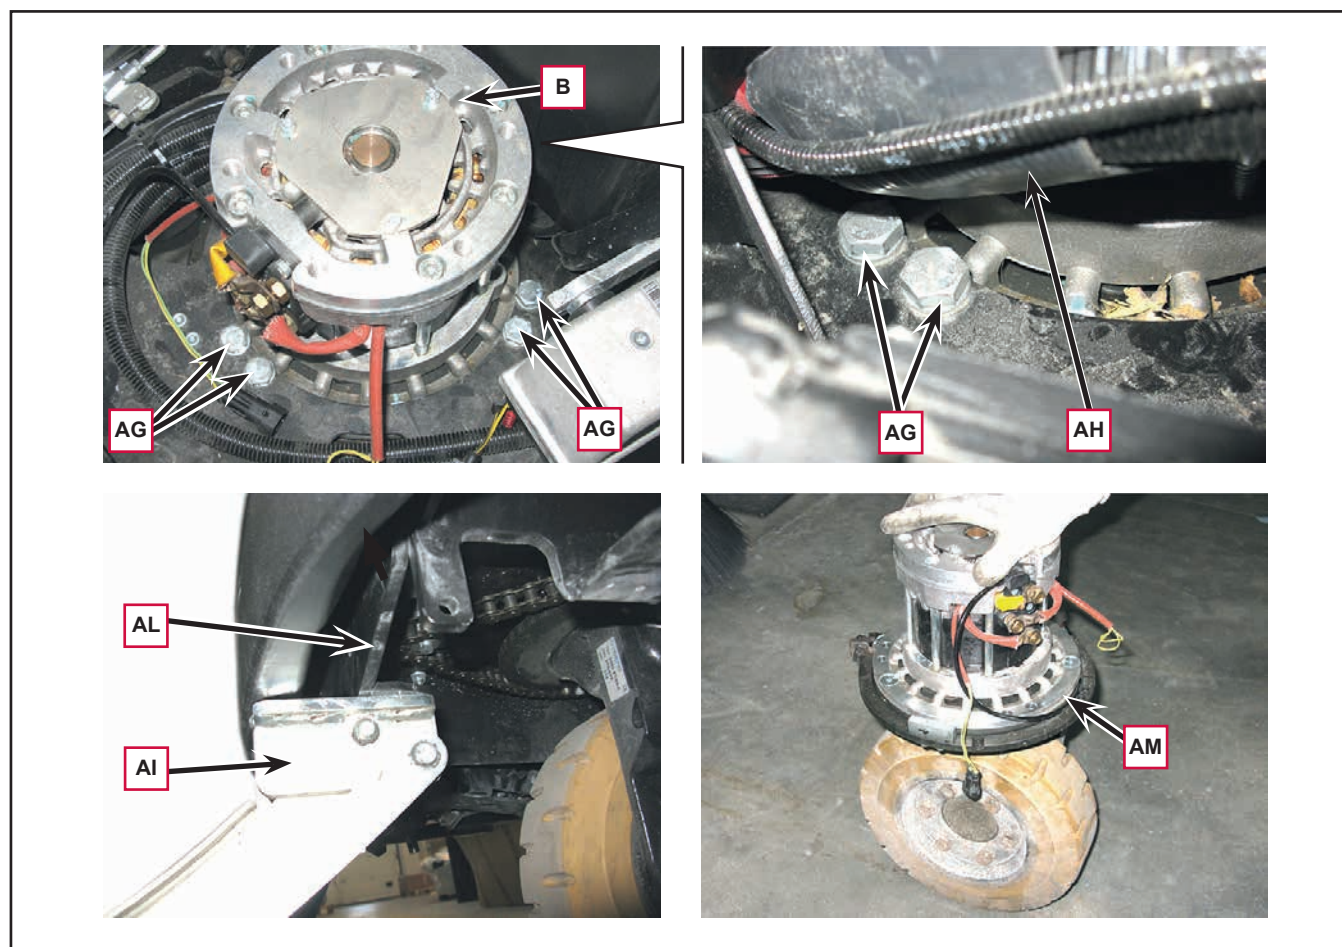

Figure 12
24. Unscrew the six screws (AG, Figure 12) fastening the driving wheel (AC); lift the wiring (AH) slightly for the two left screws.
25. Position a suitable lifting device (AI) at the centre of the front section of the machine, on the chassis bracket (AL), then carefully raise the front of the machine by a few centimeters until the driving wheel (AM) can be removed; take care, as the driving wheel weighs 43 Kg.